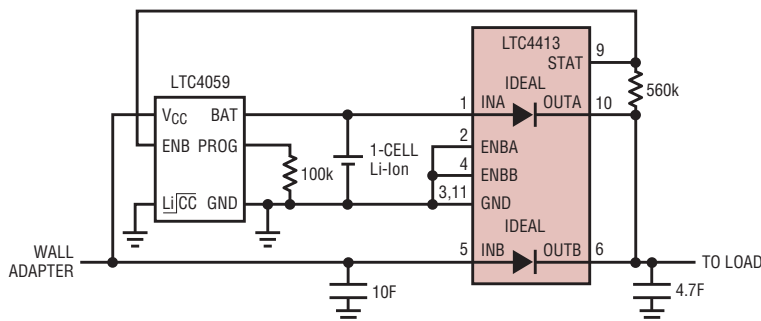

Figure 6. Automatic switchover from a 4.2V Li-Ion battery to a wall adapter and battery charger
**Figure 6. Dual battery charger/controller safely charges and discharges two Smart Batteries in parallel, even two batteries with different chemistries. Parallel charge and discharge is far more efficient and faster than serial charging, and some high power applications require parallel discharge of batteries to supply higher currents than a single battery can offer.**
may be tied to the output as shown in Figures 6, 7 and 8.
Figure 6 illustrates an application where the LTC4413 performs the function of automatically switching a load over from a battery to a wall adapter, while controlling a LTC4059 battery charger.